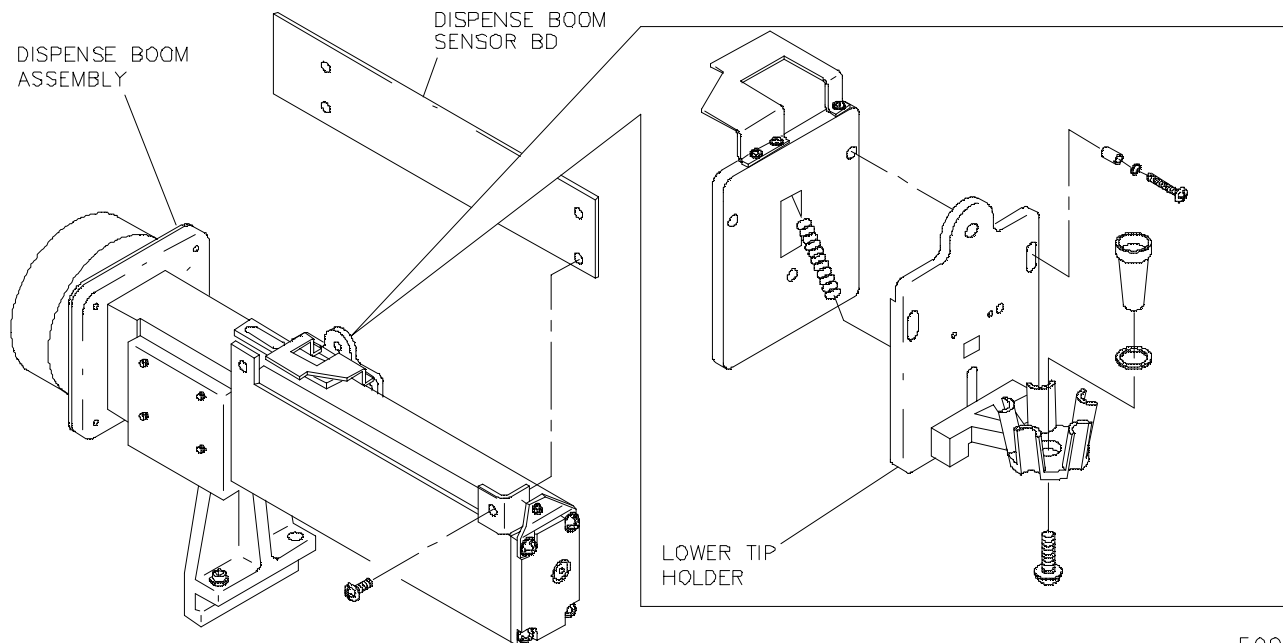

Figure 4-33. Lower Tip Holder
5. Remove the Lower Tip Holder mounting hardware from three places (**Figure 4-33**).